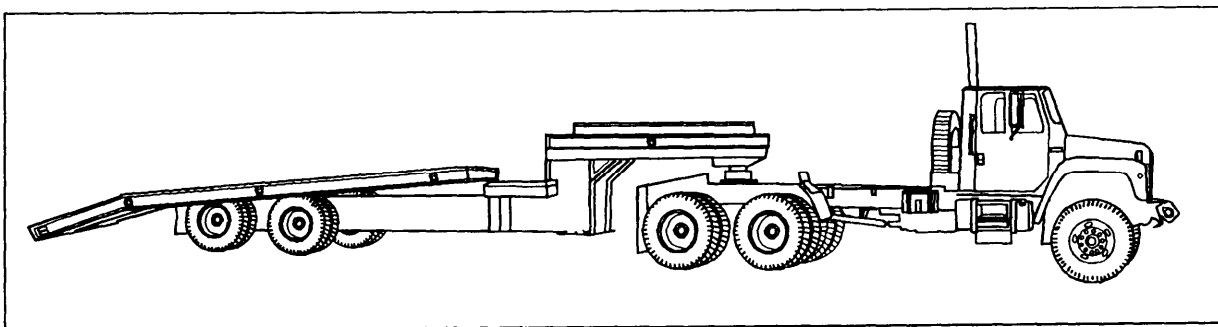

Figure 7-32.—Tilt-bed trailer with bed in the tilt position.
**TILT-BED TRAILER.**— A tilt-bed is like having portable ramps all the time. The bed will tilt (fig. 7-32) for the load to move up and forward of the balance point. As the load continues to move forward, the bed lowers into the transport position. Ensure the tilt-bed locking device and safety lock, as shown in figure 7-6, are opened before the bed is lowered.